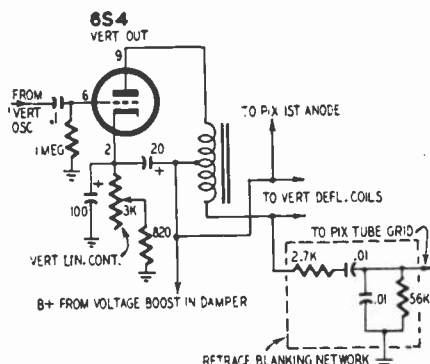

Fig. 3-B. This vertical-output circuit gets its plate voltage from the B+ boost in the damper.
**SYMPTOMS:** Low boost voltage is evidenced by abnormally low horizontal sweep, low brightness due to low high voltage, and lowered vertical sweep if the vertical oscillator or amplifier is fed from the boosted B+. A vertical-output circuit working from boosted B+ is shown in Fig. 3-B, Picture may be visible, but focus will be poor.